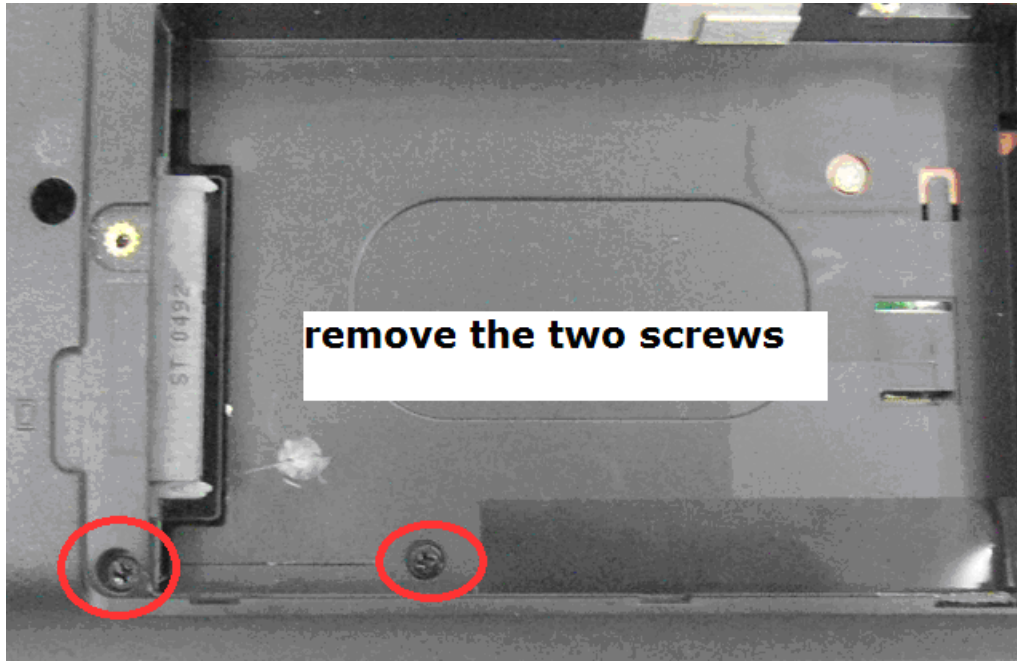

Figure 4-6-2 Remove two screws inside Ram door
5. Remove SCREW M2.5*6.5F 1PCS and M2.5*3.0F 1PCS inside Ram door.(Figure 4-6-2)